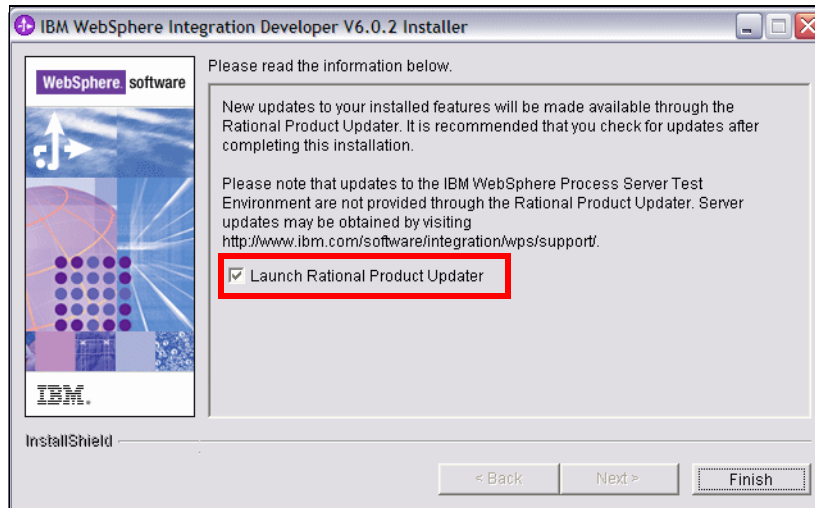

Figure A-7 Launch Rational Product Updater
- ▶ Select *Launch Rational Product Updater* to verify if product updates are available (Figure A-7). Click *Finish*.